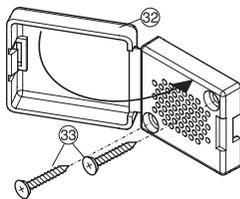

Figure 17
- b) If the upper cabinet spacer **(Fig. 7, 5)** *does not* interfere with the top kitchen cabinet door hinge, install it in the location shown in **Figure 7** using the screws provided **(Fig. 17, 33)**. Make sure the front edge of the spacer is recessed 1/8 in. (3 mm) from the edge of the kitchen cabinet wall. The plastic hinge of the cabinet spacer should face the rear wall of the cabinet.
- c) **All 24 in. (609.6 mm) wide cabinets require the lower cabinet spacer (Fig. 7, 6)**. Install it in the location shown in **Figure 7** using the screws provided **(Fig. 17, 33)**. Make sure the front edge of the spacer is recessed 1/8 in. (3 mm) from the edge of the kitchen cabinet wall. The plastic hinge of the cabinet spacer should face the rear wall of the cabinet.